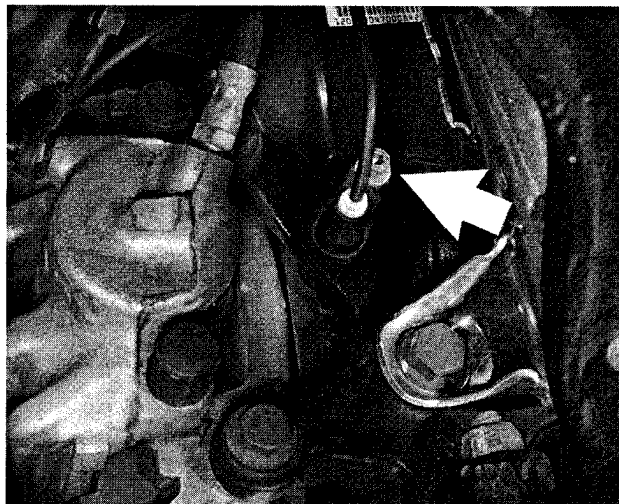

Fig. 18. Front ABS pulse sensor mounting bolt (arrow).
2. Unscrew wheel speed sensor mounting bolt. Remove sensor from its housing. See Fig. 18. Remove harness from retaining mounts.